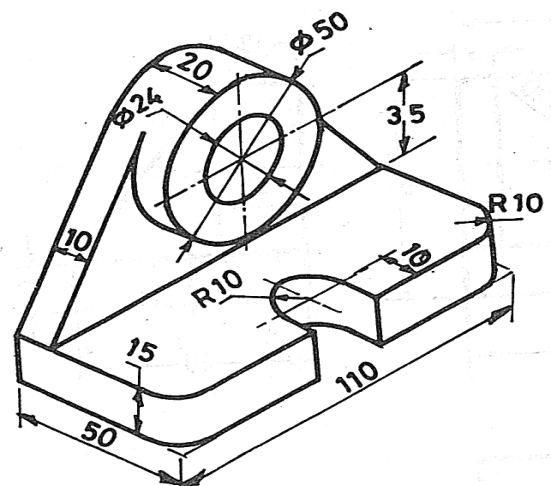

Fig: 4
11. The pictorial view of the machine component is given in Fig: 4. Draw the front view and top view.